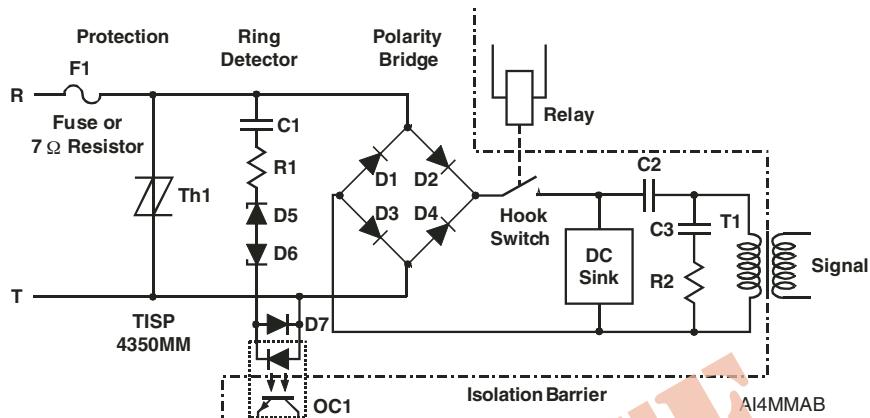
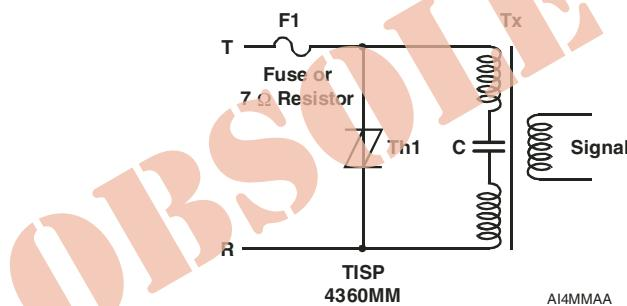

Figure 15. Basic TISP4350MM Electro-Mechanical Hook Switch Protection
Figure 16. Basic TISP4360MM ADSL Interface
The TISP4350MM is designed to meet the FCC Part 68 Type B ringer voltages and is suitable for electro-mechanical hook switch POTS modems, Figure 15. For ADSL modems, the TISP4360MM should be used as it has an increased working voltage to avoid clipping the ADSL signal, Figure 16. The solid state hook switch used in POTS modems may be limited in voltage and dissipation capability. To reduce the voltage stress level on the solid state switch, a 300 V V(BO) TISP4300MM can be used, Figure 17.